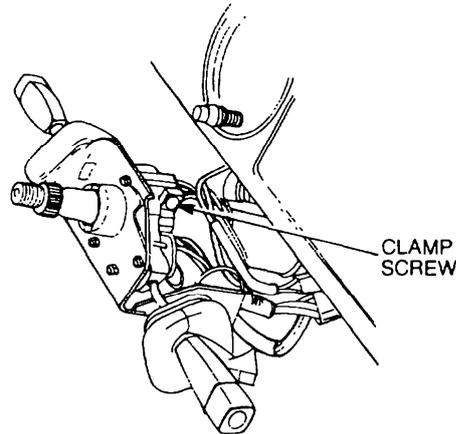

Figure 196 Combination Switch Removal
i. Remove the three screws securing the switch to the combination switch bracket (Figure 196).